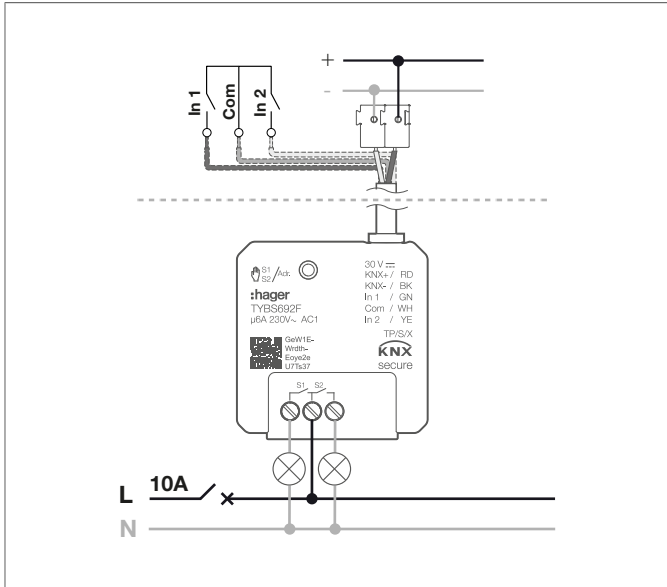
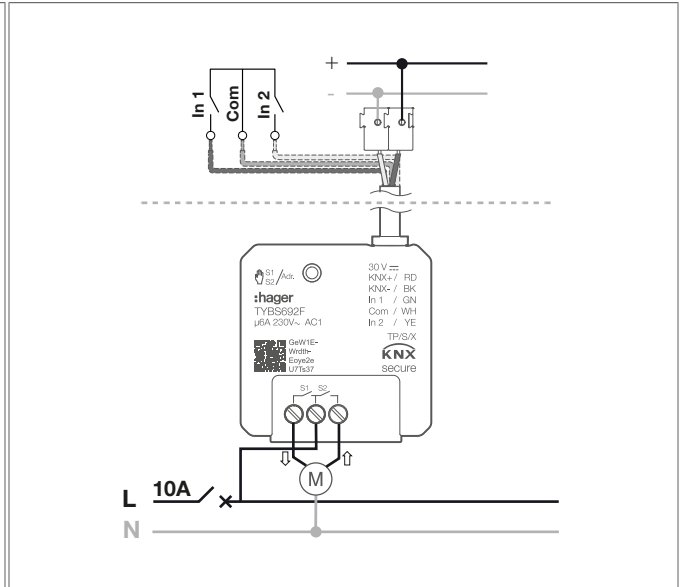

Fig. 3: TYBS692F lamp load connection diagram
Fig. 4: TYBS692F motor load connection diagram
- Connect the device according to the connection diagram ((Fig. 3: TYBS692F lamp load connection diagram) or (Fig. 4: TYBS692F motor load connection diagram)).